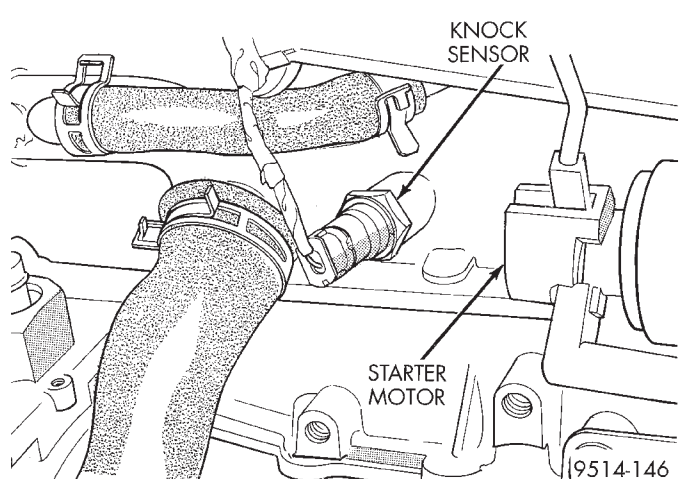

Fig. 44 Knock Sensor—2.4L
(11) Inspect system body grounds for loose or dirty connections. Refer to Group 8 - Wiring for ground locations.
(12) Inspect air cleaner filter element. Replace as necessary. Check air induction system for restrictions.
(13) Check electrical connection at the knock sensor (Fig. 44), 2.4L engines only.